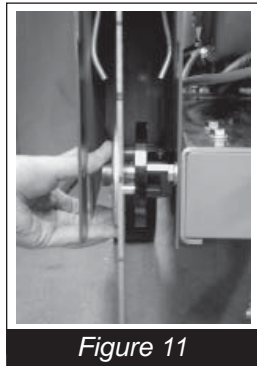

Figure 11
- Carefully place the blade on the arbor shaft and turn until the drive pin lines up with the hole in the backing plate. (Figure 11) Do not use a blade without a drive pin.